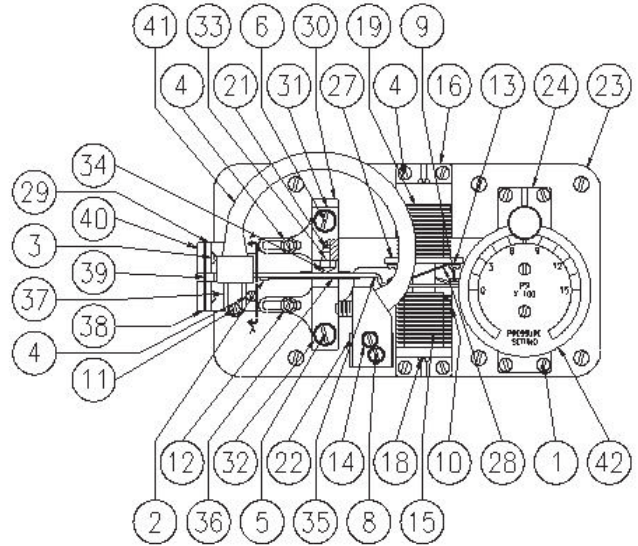

Figure 6 Controller Sub-Assembly for Bourdon Tube Controllers S&S Type 4150 and 4160
(Refer to figure 6)
1. Move the calibration adjuster (Key 30, Figure 6) to the right or the left.
4. Raise or lower the nozzle (Key 34, Figure 6) to get the desired setting of zero as per chart below. Nylon insert will hold the nozzle in place.
5. Raise or lower the nozzle (Key 34, Figure 6) to get the desired setting of zero as per chart below. Nylon insert will hold the nozzle in place.
Controller Sub Assembly (Refer to Figure 6)